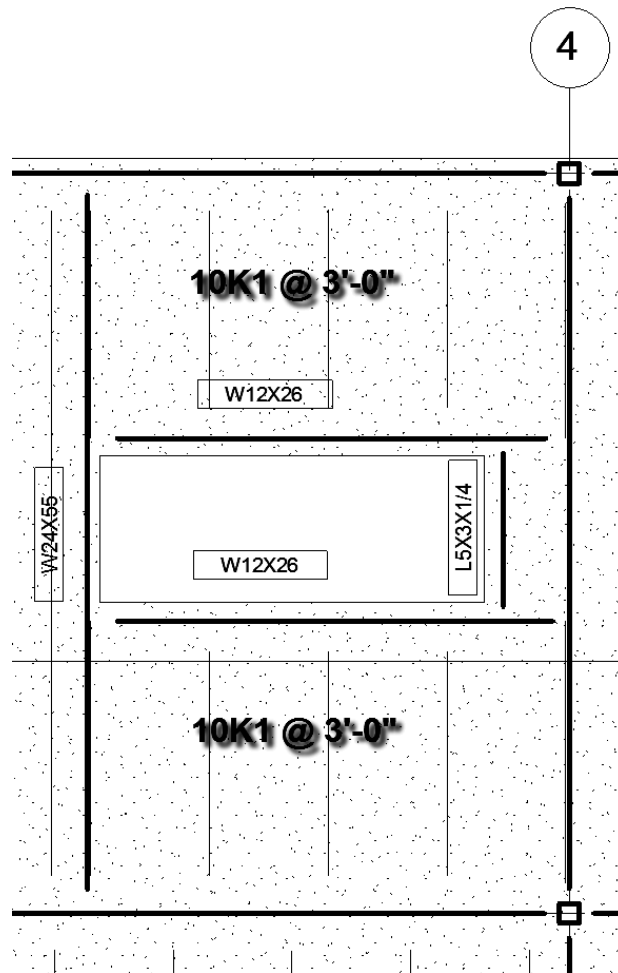

FIGURE 7-4.18 Beam Systems adjacent to the floor opening
47. Using techniques previously discussed, i.e., loading content and creating beam systems via sketching, place the remaining joists shown in Figure 7-4.18.